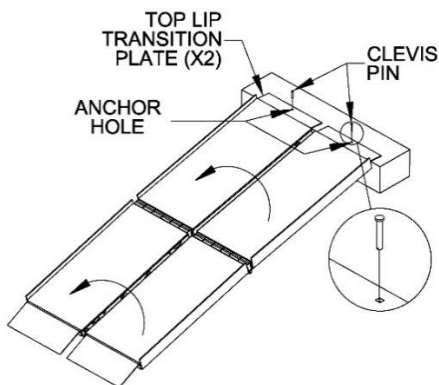

FIG. 3
4. Complete the ramp opening, exposing the entire applied slip-resistant tread surface, then center the ramp on the upper landing (FIG. 3).
6. Securely anchor the ramp to the upper landing (FIG. 3).